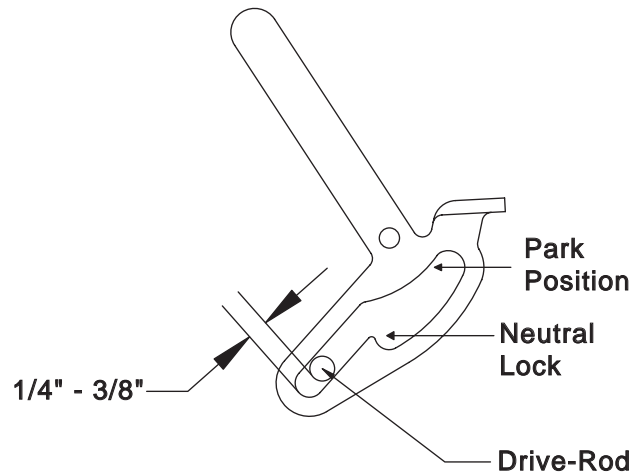

Fig. 2
7. Using drive rods provided, turn them into the 5/16" swivel located in the left and right hand idler engagement bracket. Adjust the rods so that there is approximately 1/4" to 3/8" between the rod and the bottom of the thumb latch. Rods should be locked in place by using 4 – hair pin cotters and by placing a 5/16" flat washer to be inside of the drive handle between the drive lever and hair pin cotter. (See fig.2)
- Keep a 1/8" to 1/4" clearance between belt guides and belts. Be sure the drive control rod is properly adjusted in the thumb latch. (See Fig 2.)